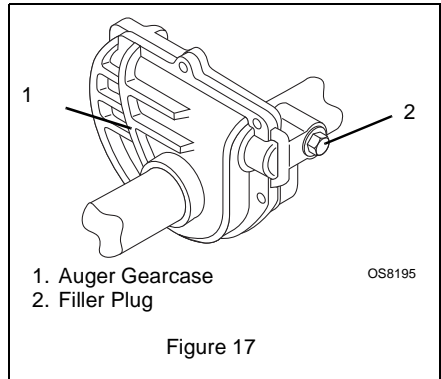

Figure 17
(Figure 17)
1. Remove filler plug (Figure 17). Lubricant must be at least up to bottom of lubricant filler hole with unit resting on a level surface.